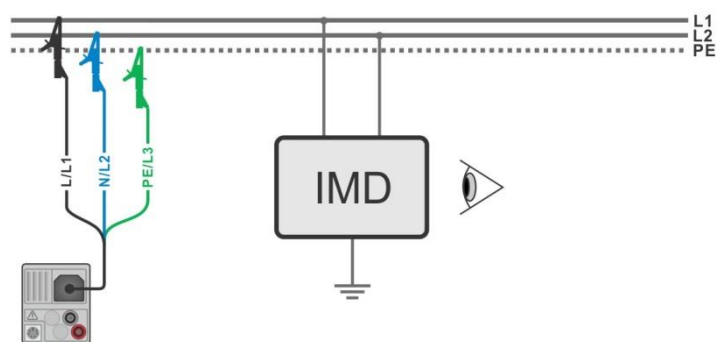

Figure 7.94: AUTO IT measurement
- › Connect test leads to the object under test, see **Figure 7.94**.